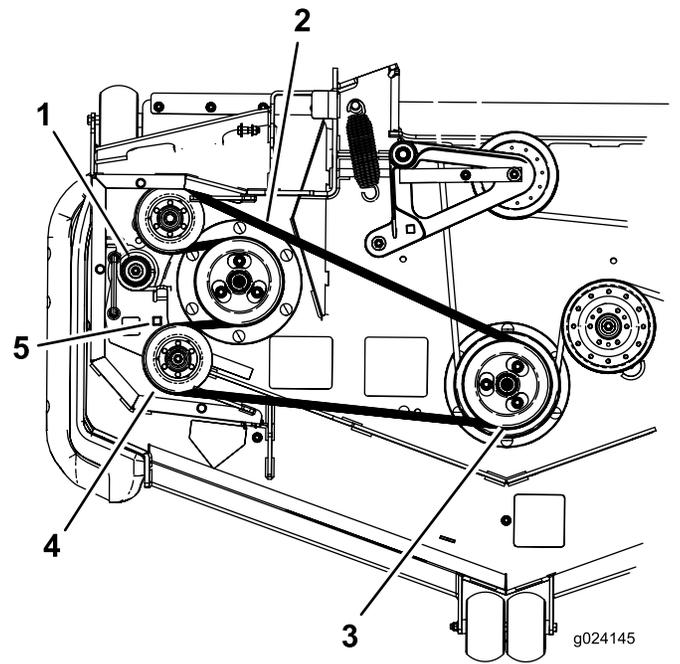

Figure 93
9. Use a ratchet in the square hole in the idler arm to remove tension on the idler spring (Figure 93).
10. Remove the belt from the mower deck pulley (Figure 93).
11. Remove the belt from the remaining pulleys (Figure 93).
13. Using the ratchet in the square hole, remove the tension on the spring, and guide the new belt around the idler pulley (Figure 93).